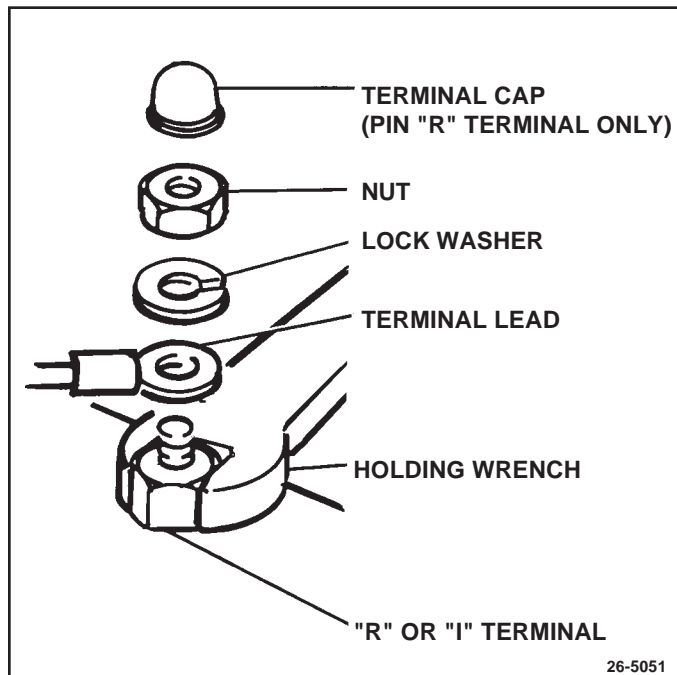

Figure 52. Threaded "I" or Pin "R" Terminal
10. "I" or "R" terminal connector, if used. For threaded terminals with a hex base, hold hex portion of terminal as anti-turn while tightening nut. (See Fig. 52) For post-type terminals, use 1969007 Relay Cable or equivalent. If terminal is not used in application, place insulating cap on terminal.